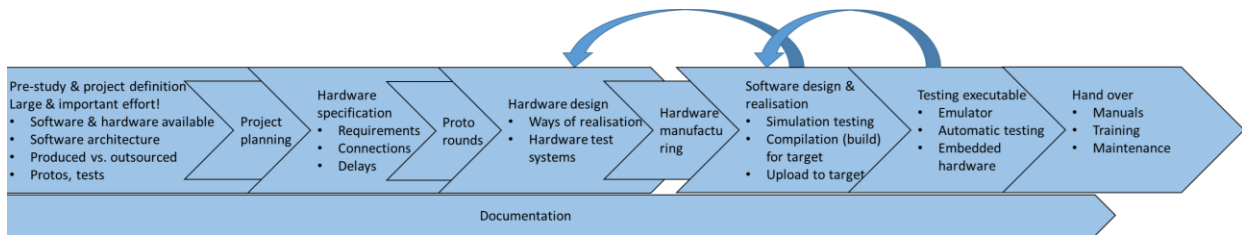

Figure 3. An example of hardware and code development process for an embedded system.
The control algorithms developed are implemented in a selected control hardware, called a *target hardware*. The hardware realisations can for instance be *microcontrollers (μC), digital signal processors (DSP), field-programmable gate array (FPGA)*, or an ordinary computer. Programming a target hardware can be carried out in various ways. Low-level programming languages such as Assembler are utilised to produce an efficient code that can be executed with minimal computational resources. The time used for the code development is typically longer for low-level languages. Higher-level languages and graphical programming are used more today as data processing has become faster. However, low-level programming is relevant when efficiency and reliability requirements for the code are high. Figure 3 shows an example workflow of a hardware and software development project and target programming process.
3. Study Figure 3. How you would fit it in the V cycle development process?